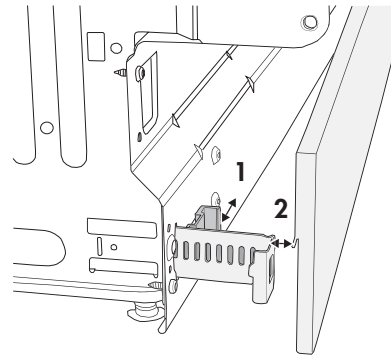

Figure 9.
- Move the grey hooks towards one another and pull out the holders as far as required. Push in the hooks so that they lock the holders securely (see Figure 9).